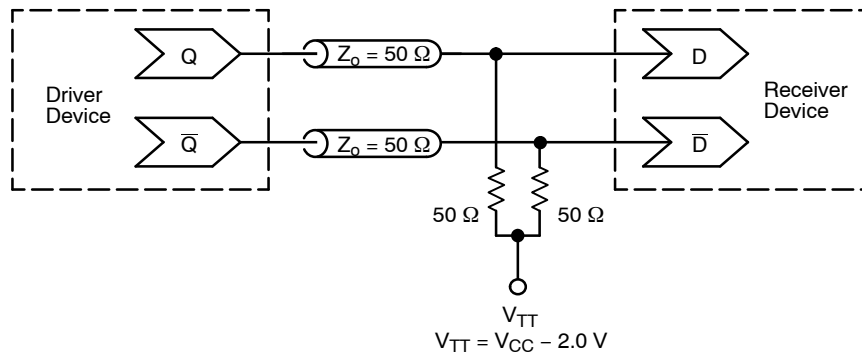
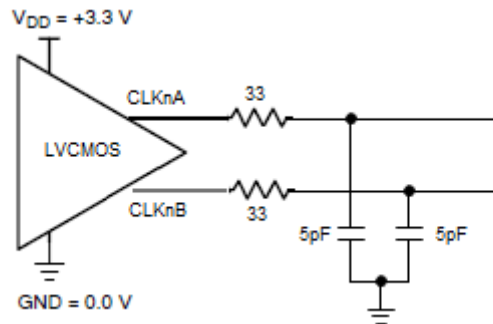

Figure 9. Typical Termination for LVPECL Output Driver and Device Evaluation (See Application Note AND8020/D – Termination of ECL Logic Devices.)
Figure 11. Typical LVC MOS Output Test Setup for Evaluation
13. Measured by using a 25 MHz crystal as clock source. All LVPECL outputs are loaded with an external R_L = 50 Ω to V_{DDO} – 2 V (Figure 9); LVCMOS outputs loaded with R_S = 33 Ω, C_L = 5 pF, 5" 50 Ω trace, (Figure 11).